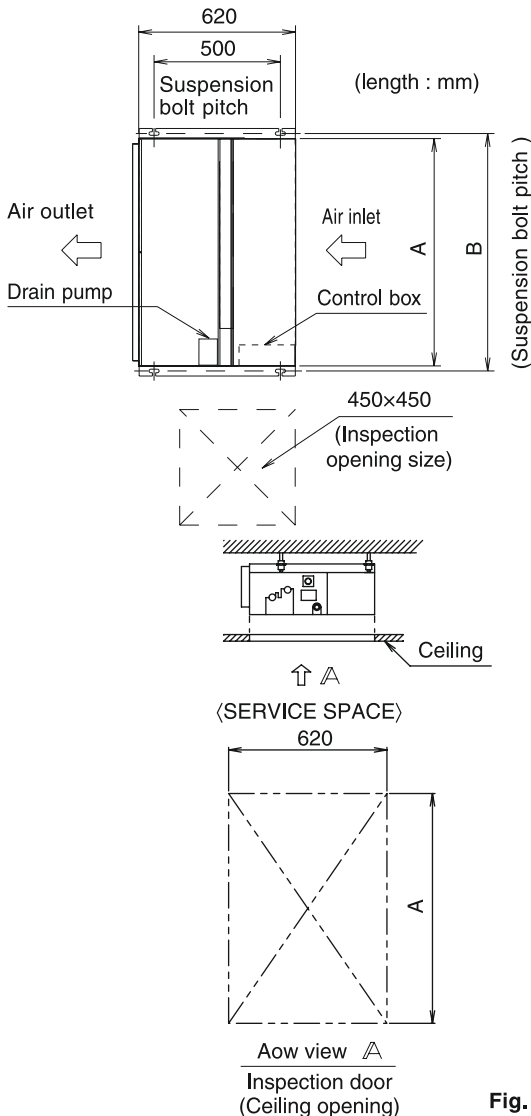

Fig. 2
(1) Confirm the positional relationship between the unit and suspension bolt. (Refer to fig. 2)